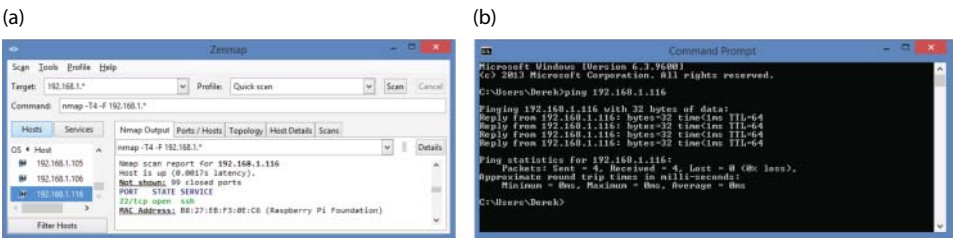

Figure 2-1: (a) Zenmap scan of the network to locate the RPi; (b) A ping test from the desktop machine
- **With a port-scanning tool:** Use a tool like *nmap* under Linux or the Zenmap GUI version, available for Windows (see tiny.cc/erpi203). Issue the command `nmap -T4 -F 192.168.1.*` to scan for devices on a subnet. You are searching for an entry that has an open port 22 for SSH. It should identify itself with the Raspberry Pi Foundation (see Figure 2-1(a)) as a result of the range of MAC addresses allocated to the Foundation. You can then ping test the network connection (see Figure 2-1(b)).